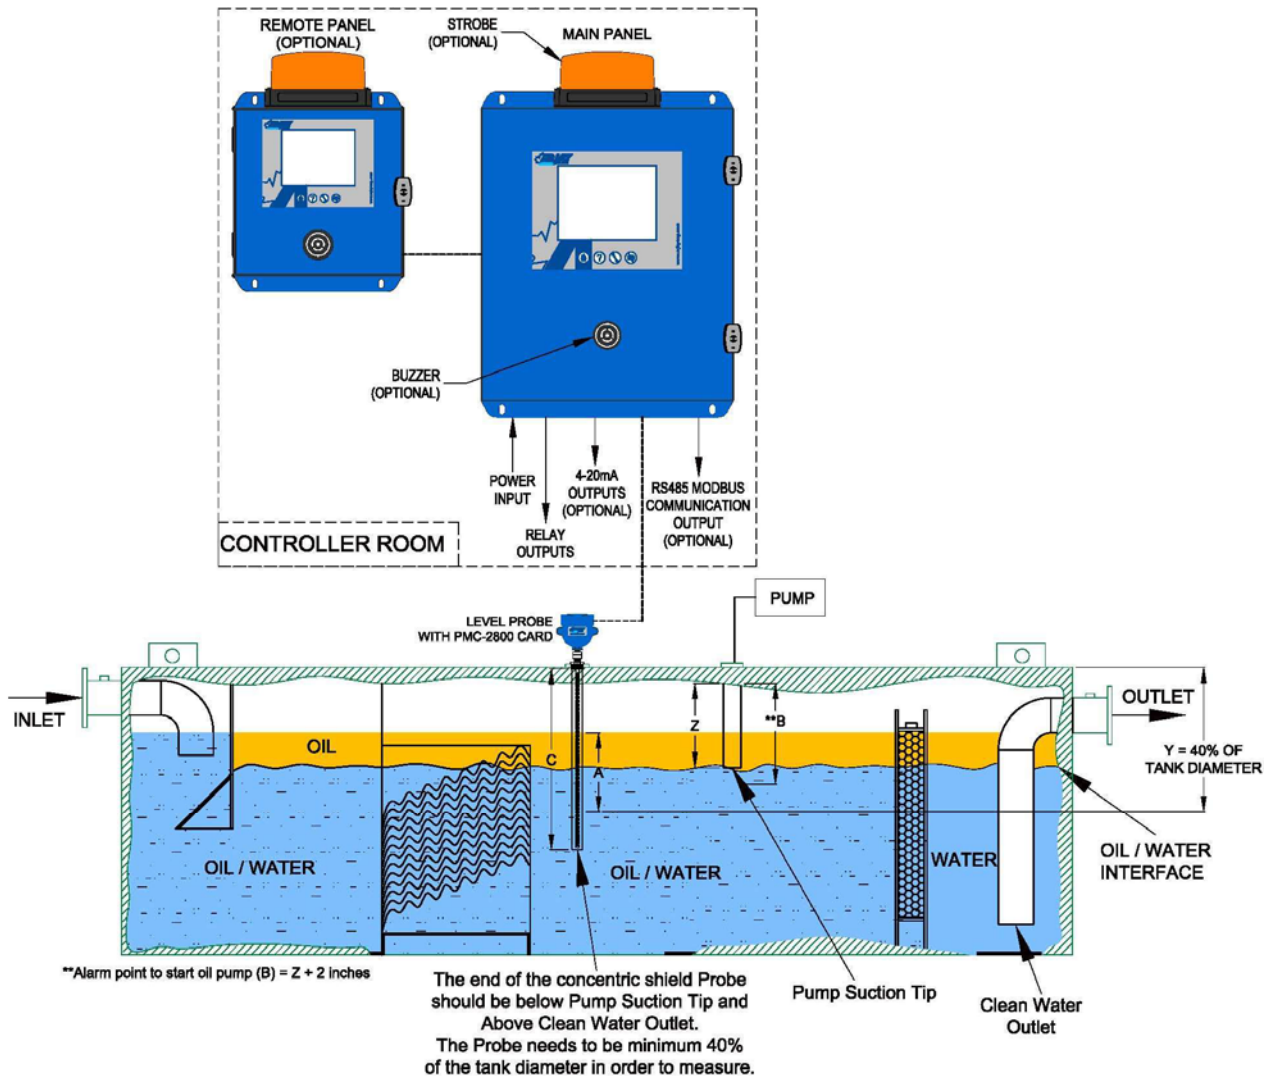

Figure 3 – Typical Oil/Water Separator Application Overview
Figure 3 shows a typical Oil/Water Separator application. Length (C) is the physical length of probe sized for the separator. The probe length may vary depending on manway requirements, etc. (A) is the depth of oil on the probe corresponding to the maximum anticipated oil level. (Y) is typically 40% of the tank diameter and the maximum point of oil accumulation. (B) is representative of the depth of oil needed prior to initiating a pump. (Z) is the tank depth of oil pump-out pipe.